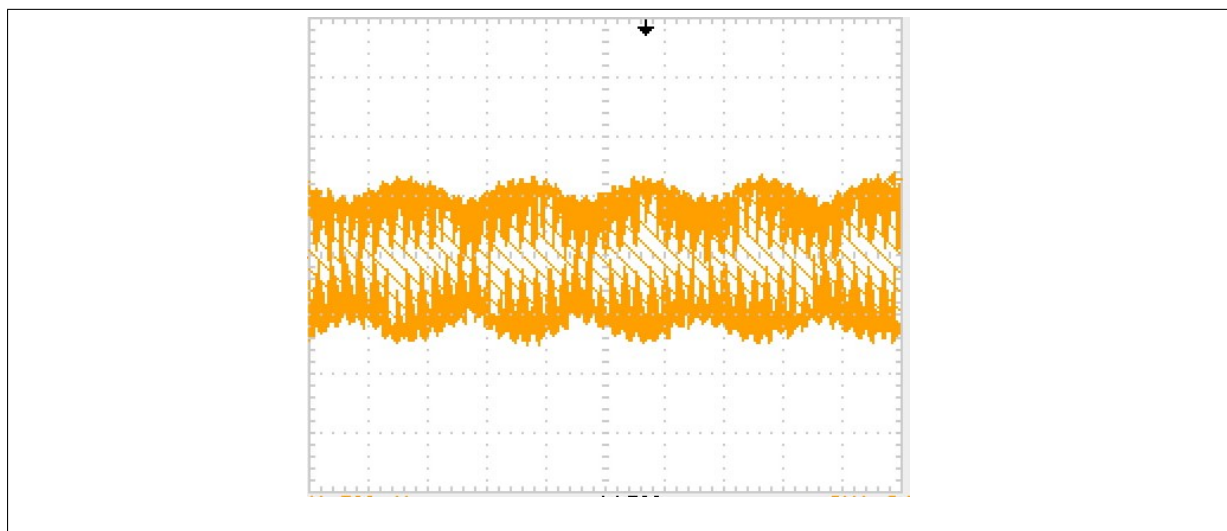

Figure 8: Oscilloscope photo of an AM modulated signal.
- Observe the signal between JP30 and GND. You should see an amplitude modulated (AM) 27.000 MHz signal as shown in Fig 8. Set your oscilloscope time scale to 500 μ s/div. Set the ACQUIRE mode to Peak-detect. This setting allows the oscilloscope to capture the peak of the RF signal even though the sampling rate of the oscilloscope is not enough the capture the RF signal itself. Increase the signal amplitude of the signal generator until